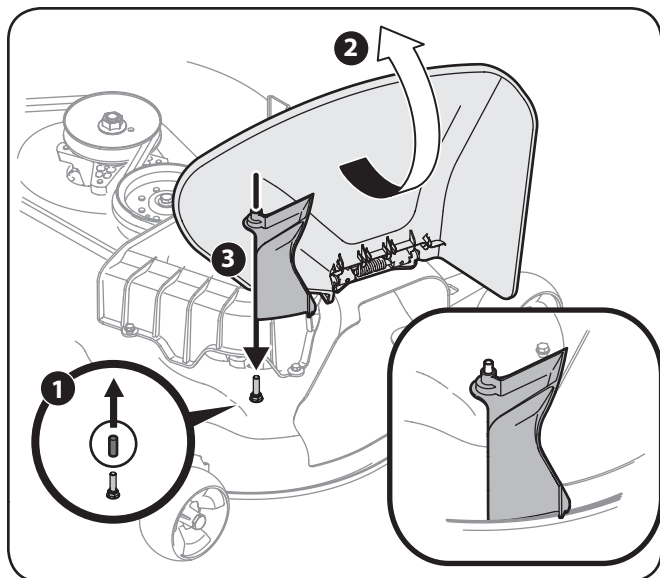

Figure 18
2. Remove the deck pin rubber protective cap, 1 in Figure 18.
3. Raise the chute deflector (2 in Figure 18) on the deck and hold it while you install the (731-10133) chute adapter (3), included in hardware pack 689-00341, onto the deck as shown in Figure 18.